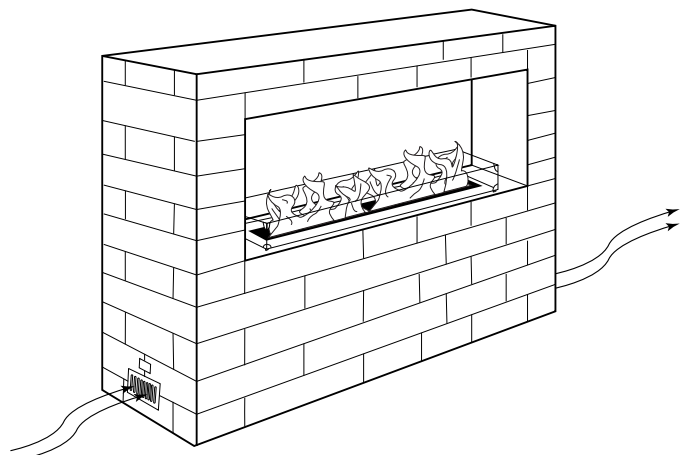

Figure 3 - Cross ventilation example providing minimum of 18-square inches per side using the Cross Ventilation Kit, VENT-KIT-6x12 (Cat. No. F3535), provided.
- CAUTION:** A minimum of 18 square inches of cross ventilation (per side) is required to keep the inside of the enclosure dry. Install the supplied VENT-KIT-6x12 (cat. no. F3535) approximately 3 to 4 inches from the floor centered on each end of the fireplace (*See Figure 3, Page 5*).
Fireplaces are subjected to many outdoor elements such as rain, snow, wind, heat or cold. **A minimum of 18 square inches of cross ventilation (2 sides) is required to keep the components in good working order.** Use **Figure 3** as a guide.